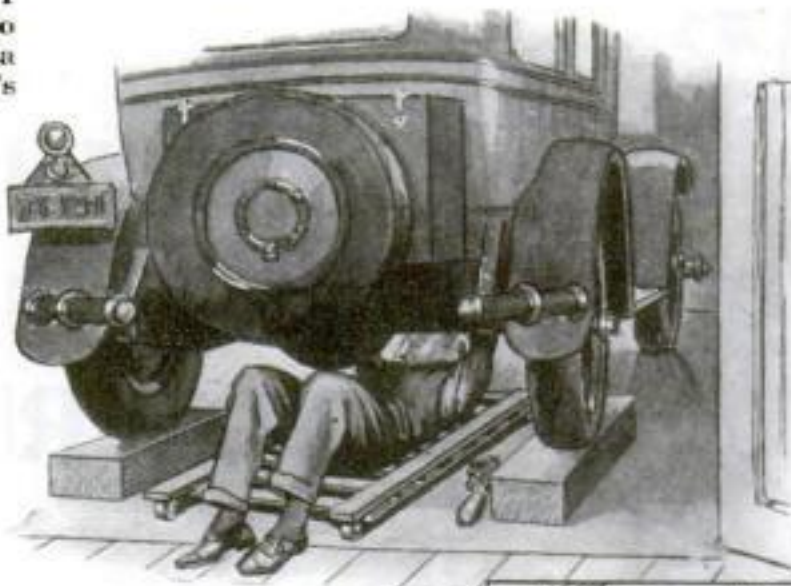

Fig. 1. How the face shield is made of a piece of celluloid.
Each month POPULAR SCIENCE MONTHLY awards a prize of \$10, in addition to regular space rates, for the best idea sent in for motorists. This month's prize goes to Merrill Devore, of Cowiche, Wash., for his suggestion of a face protector useful in automobile repair work, shown in Figure 1. Other contributions published on this page are paid for at the usual space rates.
**P**ROTECTION of the eyes and face from dirt and grease while working beneath an automobile is afforded by the ingenious homemade mask shown in Figure 1. Take a piece of celluloid, such as is used for the windows in the curtains of open cars, and with a couple of pieces of string tie it in semi-circular form about the face. It will afford complete protection for the eyes from bits of caked dirt that are sure to be loosened by hammer or screw driver.